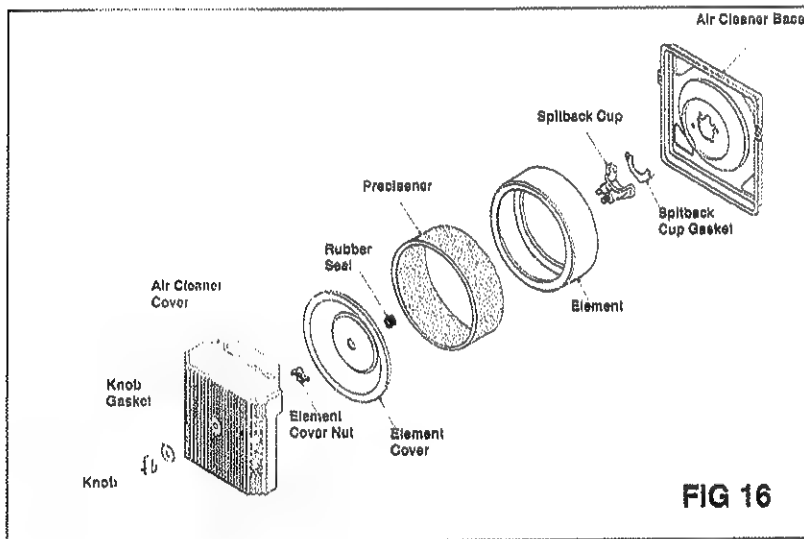

FIG 16
- 2/ That the air filter pre-cleaner is not blocked (see page 13 figs 16 and 17).